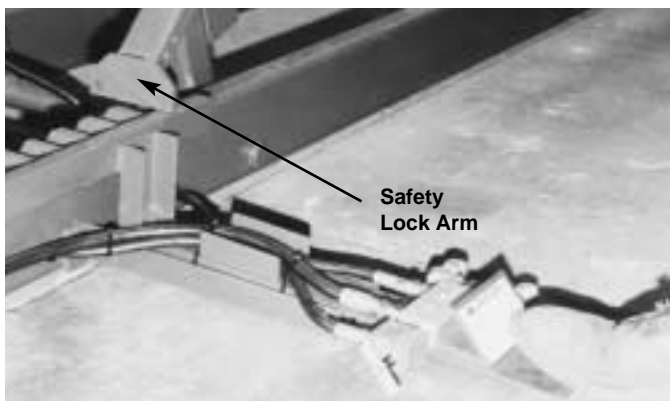
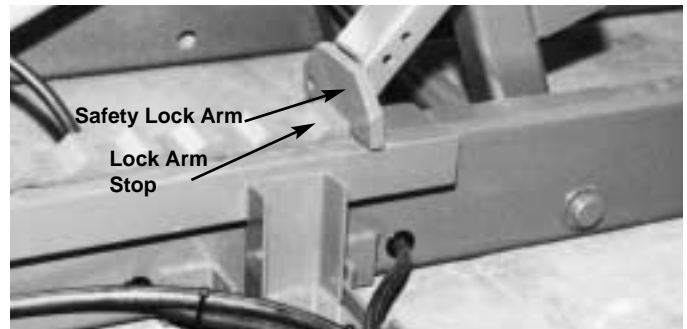

Figure 34
Figure 35
4. Gently step on **safety lock arm lever** (see Figure 34) to elevate lock arm for downward movement. Then press 'down' button to lower mainframe to a different height. Then release 'down' button when mainframe is at the desired height and release foot lever to engage safety lock arms with lock arm stops. (See Figure 35.)
- 1) When lowering mainframe make certain safety lock arm engages appropriate lock arm stop. (See Figure 35.)
2. Press 'up' button on remote control switch to lift mainframe to desired height. Then lower mainframe slightly to engage safety lock arm against lock arm stop. (See Figure 35.)